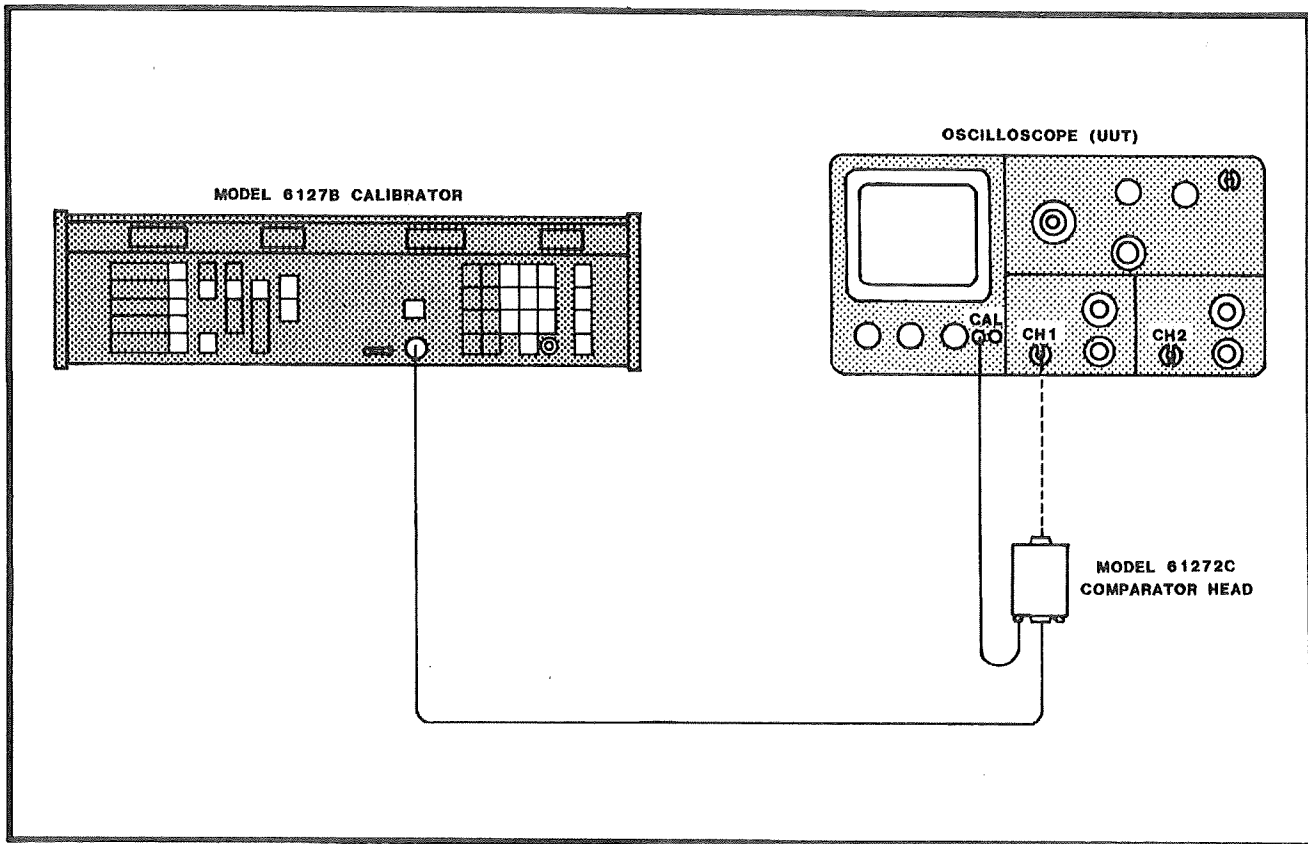

Figure 3-22. Amplitude Comparator Equipment Set-Up
a. Connect the FROM UUT CALIBRATOR BNC of the Model 61272C COMPARATOR to the oscilloscope (UUT) internal amplitude calibrator, using a short length of coaxial cable. (See figure 3-22.) If the UUT internal calibrator has a range of output voltages, start with the highest amplitude range.